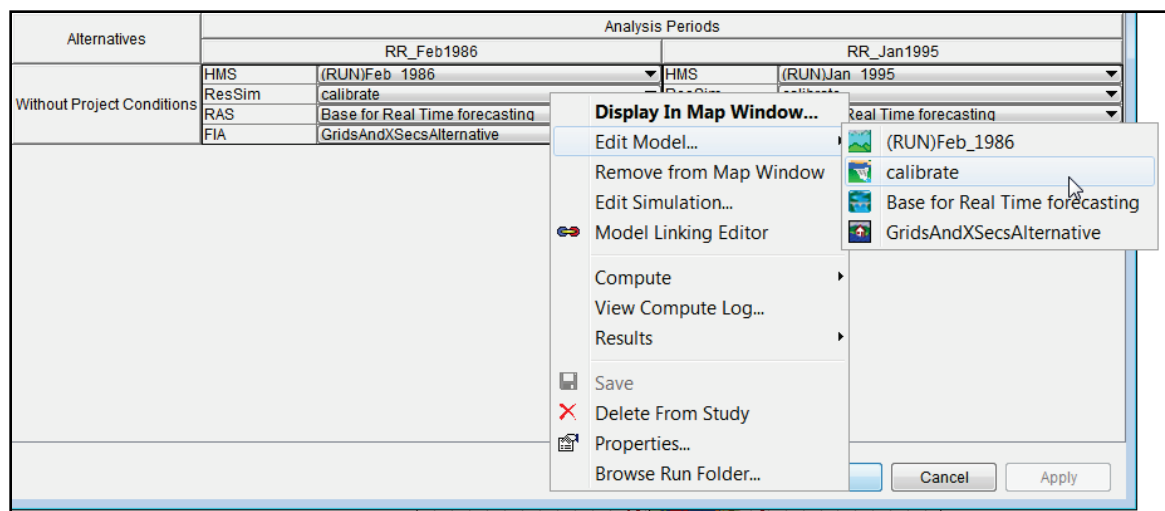

Figure 11.19 Editing a Model Alternative
1. From the individual simulation shortcut menu (Figure 11.17), point to **Edit Model**, from the sub-menu (Figure 11.19) click on the model alternative that needs to be edited.
3. The program associated with the model alternative that was selected will open. For example, in Figure 11.19, if the model alternative *calibrate* is selected, the HEC-ResSim software will open with the *calibrate* alternative selected.